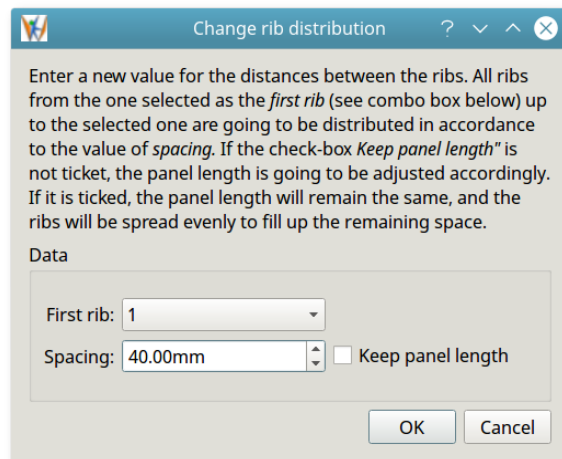

Figure 6: Changing the rib distribution within one panel
4. New in version 1.4: automatically change the distribution of ribs in accordance to the parameters specified in the corresponding dialog (Figure 6). To invoke this function, right-click into the ribs table, then select the option "*Change distribution*".